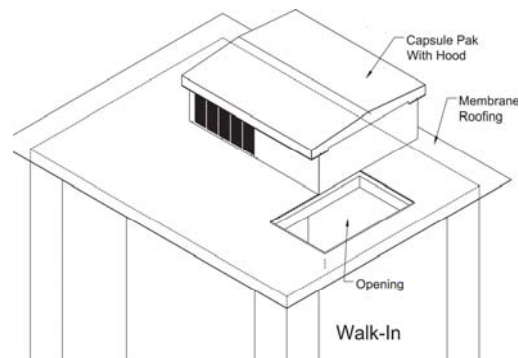

Figure 5
4. Set the PRS-2 Refrigeration System over the opening in the curb. Remove the enclosure from the condensing unit portion of the system and drill two 9/16" holes through the system base, membrane roof material, curb, and the foamed ceiling section. The holes should be located on opposite sides of the unit. Insert one 1/2" threaded nylon rod into each hole and place one washer and nut on the condensing unit end of the threaded nylon rod. Place a second washer and nut on the inside of the walk-in and tighten securely. Replace the enclosure and attach the outdoor hood with the drive screws provided. Refer to Figure 5. The nylon rods, washers, and nuts are provided.